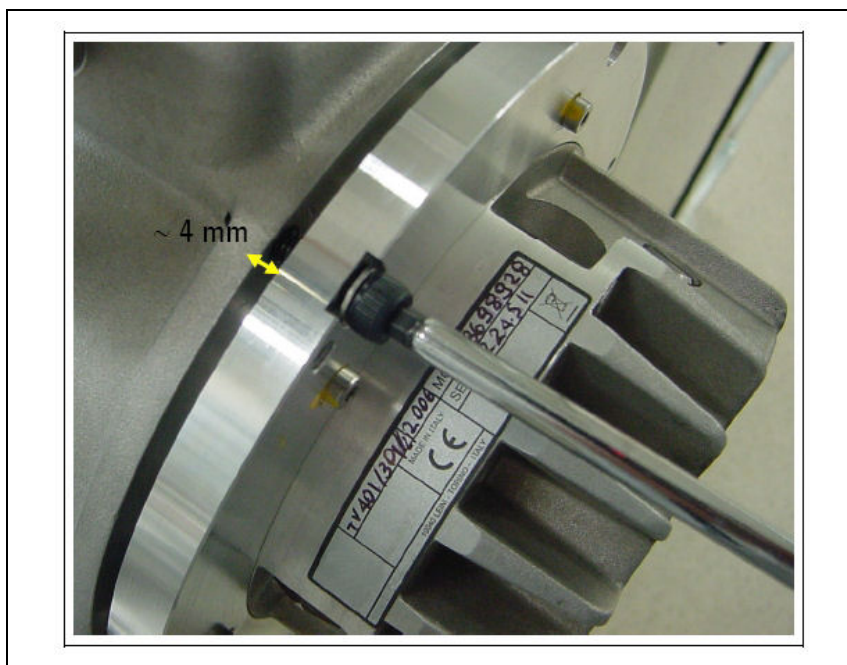

Figure 37 Screw engagement
- 2 When the axial distance between the pump flange and chamber flange is about 4 mm, engage 6 sphere-screws with washers (RED CIRCLES in Fig. 2) in the 6 outer flange threaded holes (Fig. 37).